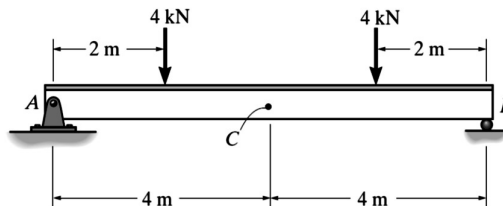

Figure 4:
- Q.4(a) Use the moment-area theorems to determine the slope at A and displacement at C for beam shown in Figure 4.  $EI$  is constant. [6]
Q.4(b) Use the conjugate-beam method to determine the slope at A and displacement at C for beam shown in Figure 4.  $EI$  is constant. [6]